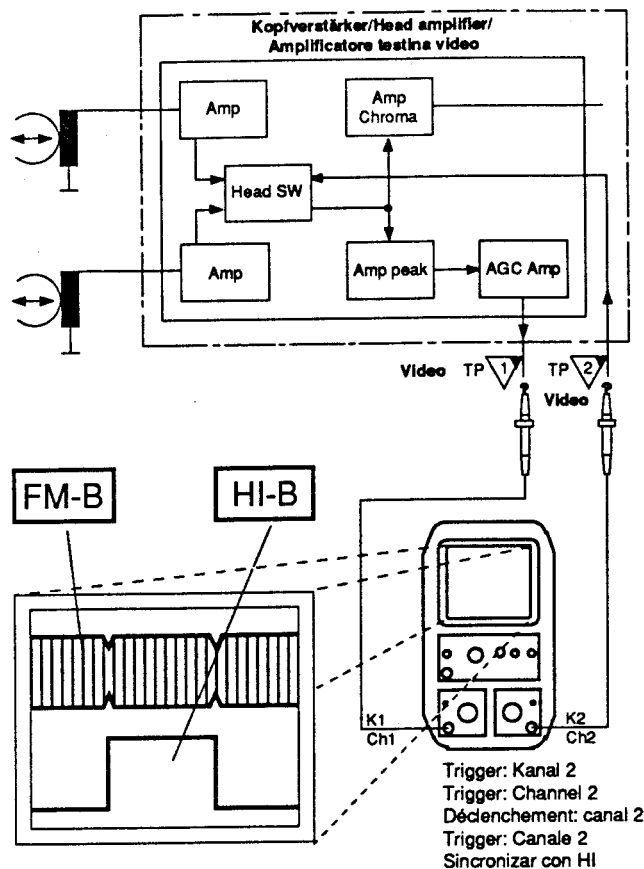

Fig. 36
- Connect the oscilloscope as shown in Fig. 36: Test Probe 1 to video TP 1
- Collegare l'oscilloscopio come indicato in fig. 36: sonda 1 al punto TP 1
- Connect the Oscilloscope as shown in Fig. 36.
- Collegare l'oscilloscopio come indicato in fig. 36.